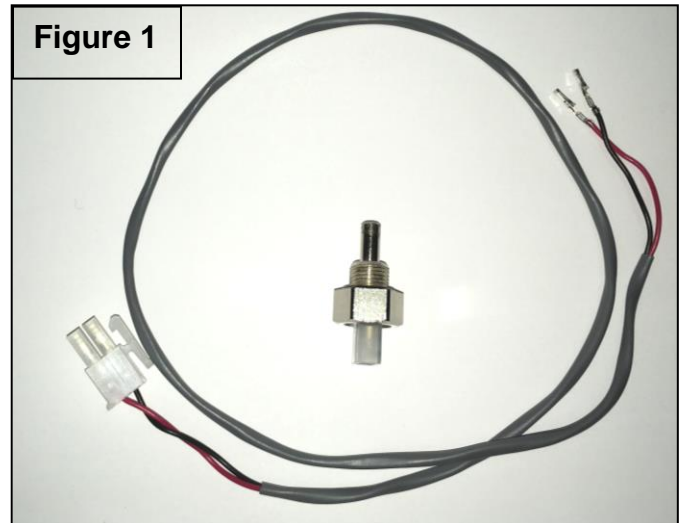

Figure 2
- 5) Remove the upper left hand electrical connector from the Sentry see **Figure 2 and 3**
- 8) Replace the electrical connector in the Sentry and verify proper boiler operation. **Figure 2 and 3**